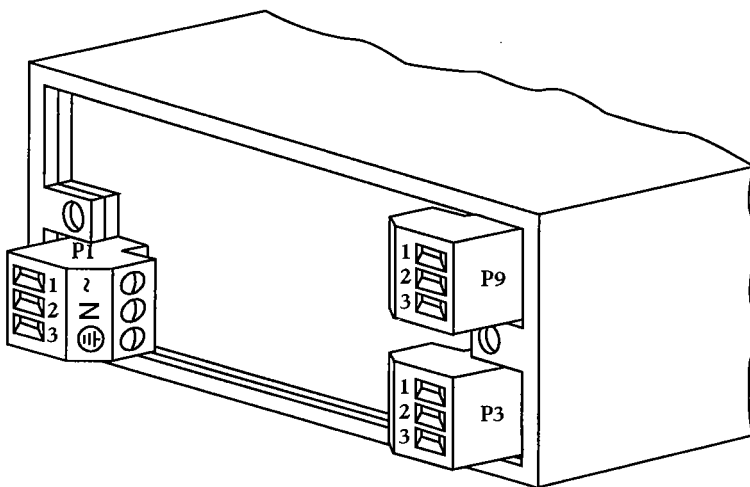

Figure 7-4. Rear View of the Meter
1. Insert the P1 connector at the rear of the meter. Refer to Figure 7-4 for the location of P1.